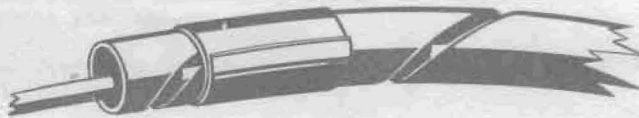

FIG. 3. LIGHT TYPE VIBRATING DAMPER FITTED WITH ADHESIVE TAPE.
- 4.5 A light type of plastic damper has been purchased. When installing these, it is necessary to fix about 4 inches of adhesive tape (Serial 433/11) around each end of the Vibration Damper making sure that it remains free to move and that the adhesive tape is not adhering to both the damper and the wire (See Fig. 3).